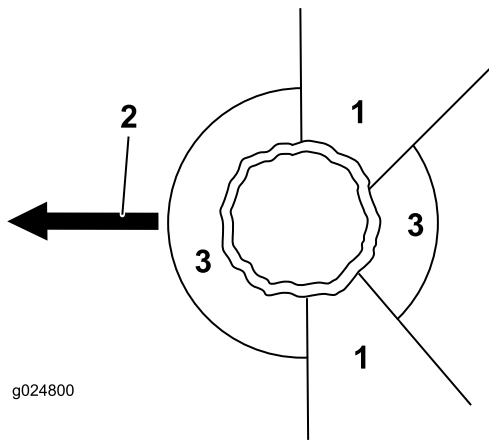

Figure 17
2. Determine a clear, safe retreat path away from the danger area; refer to Figure 17.